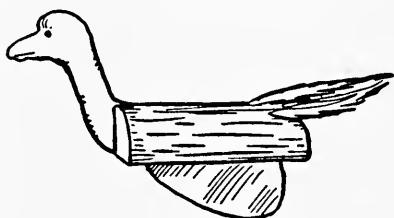

FIG. 402. — The Duck.
**A Duck** is shown in Fig. 402. The body for this consists of a cork split in half, the head is cut out of a piece of cigar-box, and a small tin keel is fastened to the centre of the under side of the body. A few chicken feathers will form the tail. Glue, of course, cannot be used upon the duck, as it